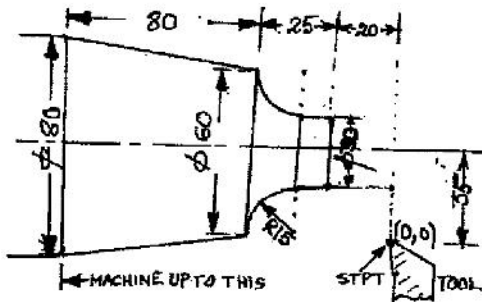

Fig. 1
- 10 Write a manual part program for the finishing cycle of turning of a job as shown in fig. 1 to be machined in a CNC lathe. (STPT indicates start point, all dimensions are in mm) 10